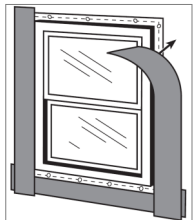

Figure 2
- 6) **Figure 2.** Starting at the bottom of the window, overlap the bottom piece of EIFS Tape about 4" (10cm) and continue up the side of the window covering the flange. Carefully press into place and roll with a hand roller. Repeat on other side of the window.